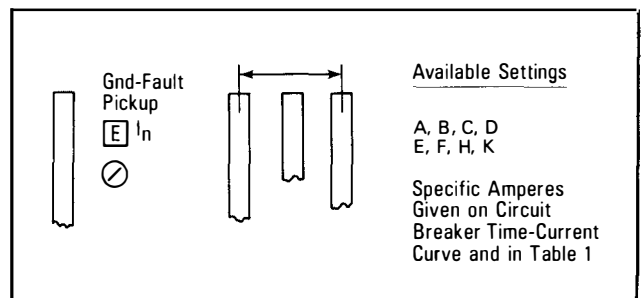

Fig. 4.6 Ground Fault Current Pickup Settings
As illustrated in Fig. 4.6, eight (8) available settings are given in alphabetical notations from A to K. (There is no "G" notation). Specific setting values are a function of the installed rating plug. In general, the pick-up settings range from 0.25 to 1.0 times the ampere rating (I_N) of the installed rating plug up to a maximum pick-up value of 1200 A. However, in the lower ampere rating plug values, an error factor can occur in the Digitrip RMS 500 Trip Unit since it is completely self-powered using only the input from the installed current sensors. Refer to Table 1, Note 2 for additional information.